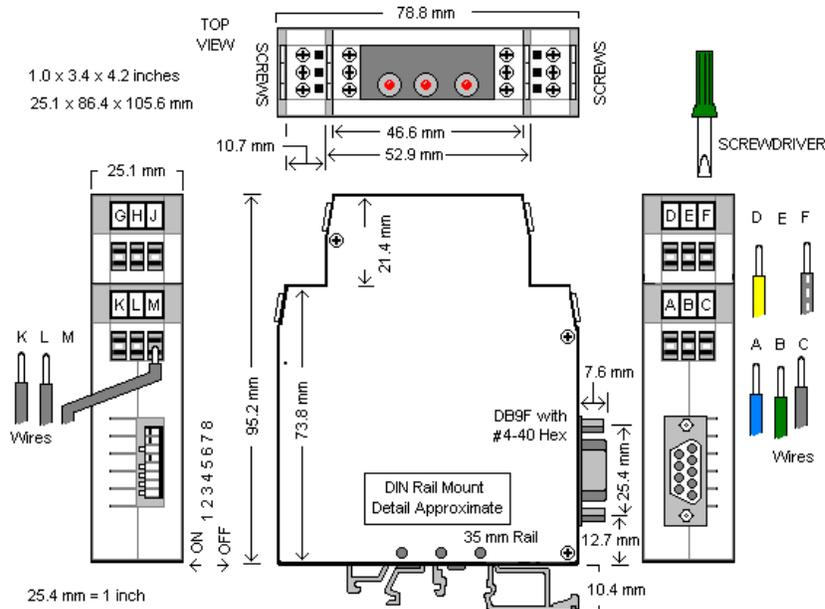

Figure 1
1. Place a flat-blade screwdriver blade in disengage clip on the converter enclosure (See Figure 1).